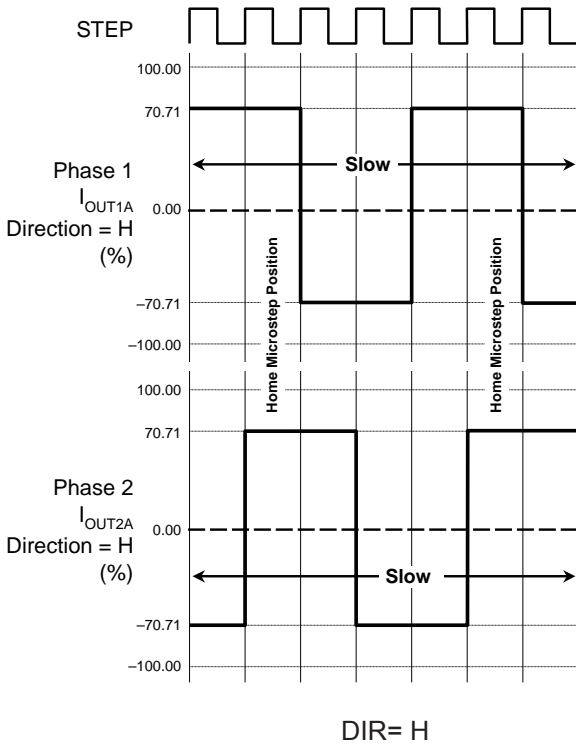

Figure 8. Decay Mode for Full-Step Increments
At power-on or reset, the translator sets the DACs and the phase current polarity to the initial Home state (shown in figures 8 through 11), and the current regulator to Mixed Decay Mode for both phases. When a step command signal occurs on the STEP input, the translator automatically sequences the DACs to the next level and current polarity. (See table 2 for the current-level sequence.) The microstep resolution is set by the combined effect of the MSx inputs, as shown in table 1.
according to the ROSC configuration and the step sequence, as shown in figures 8 through 11. During Mixed decay, when the trip point is reached, the A4984 initially goes into a fast decay mode for 31.25% of the off-time,  $t_{OFF}$ . After that, it switches to Slow decay mode for the remainder of  $t_{OFF}$ . A timing diagram for this feature appears on the next page.
**Reset Input (RESET).** The  $\overline{\text{RESET}}$  input sets the translator to a predefined Home state (shown in figures 8 through 11), and turns off all of the FET outputs. All STEP inputs are ignored until the  $\overline{\text{RESET}}$  input is set to high.
**Mixed Decay Operation.** The bridge can operate in Mixed Decay mode, depending on the step sequence, as shown in figures 8 through 11. As the trip point is reached, the A4984 initially goes into a fast decay mode for 31.25% of the off-time,  $t_{\text{OFF}}$ . After that, it switches to Slow Decay mode for the remainder of  $t_{\text{OFF}}$ . A timing diagram for this feature appears in figure 7.